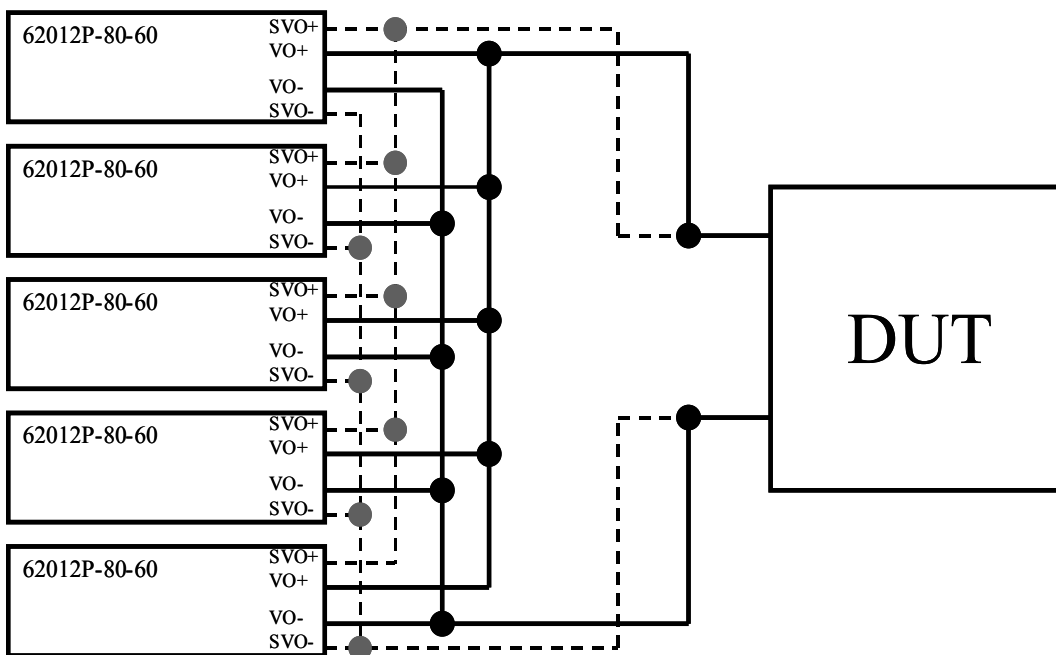
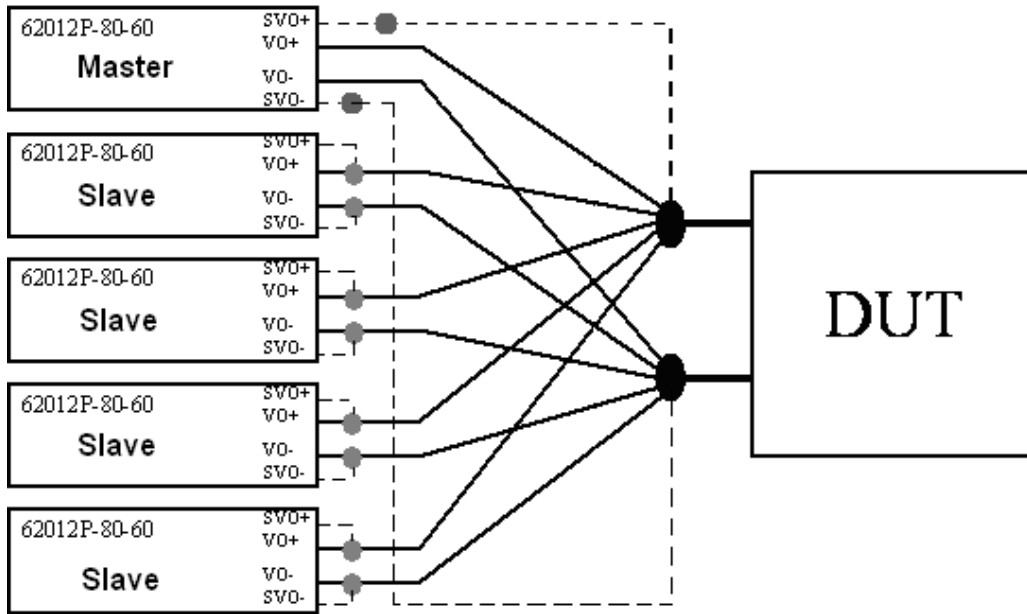

Figure 3-31
Figure 3-32
2. Figure 3-31 is the parallel connection. For 62006P-30-80, 62012P-40-120 & 62024P-40-120, it is suggested to use the connection of Figure 3-32